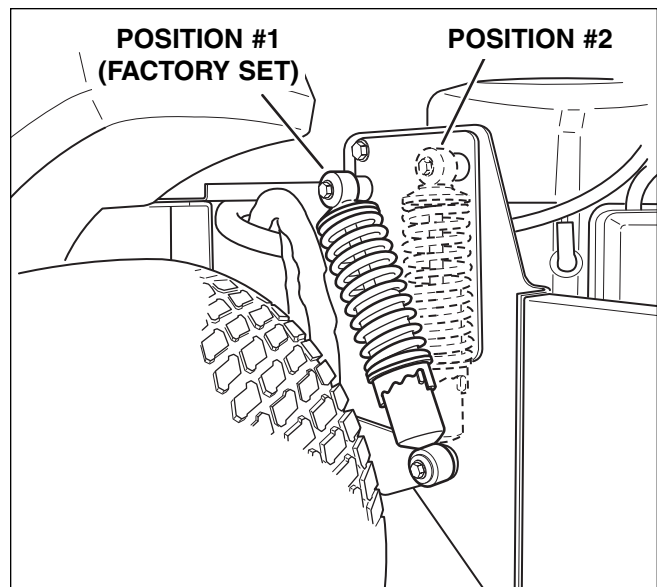

Figure 29. Rear Suspension Adjustments
4. See Figure 29. Using the supplied spanner wrench (p/n 5022853), insert the tip of the wrench into the notch in the pre-load adjuster. While holding the wrench in place with one hand, turn COUNTER-CLOCKWISE to increase the pre-load, turn CLOCKWISE to decrease the pre-load. Make sure both shocks are set to the same amount of pre-load.
4. Remove the upper shock mounting hardware and pivot the shock to the position #2 (see Figure 29). Adjust the jack to align the shock mounts to the shocks.